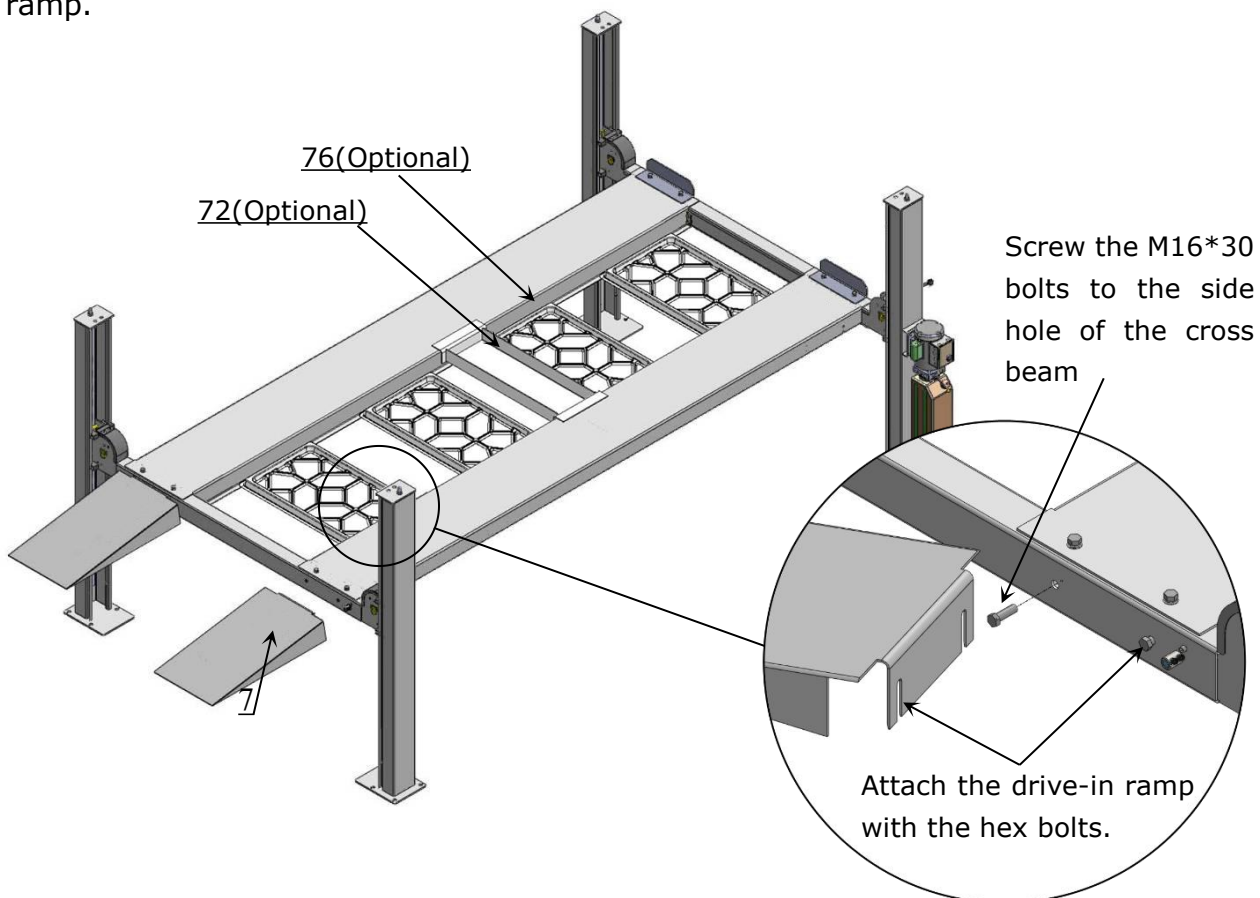

Fig. 30
N. Install drive-in ramp, optional jack tray and optional plastic oil pans (See Fig. 30).